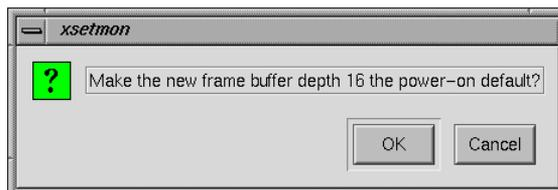

Figure 4-13 Frame Buffer Confirmation Dialog Box
1. Select the desired frame buffer depth in the Graphics Back End Control window (see Figure 4-13), and then click the **Load** button.
A dialog box appears that asks if you want to use this frame buffer depth as the power-on default, as shown in the example in Figure 4-13.